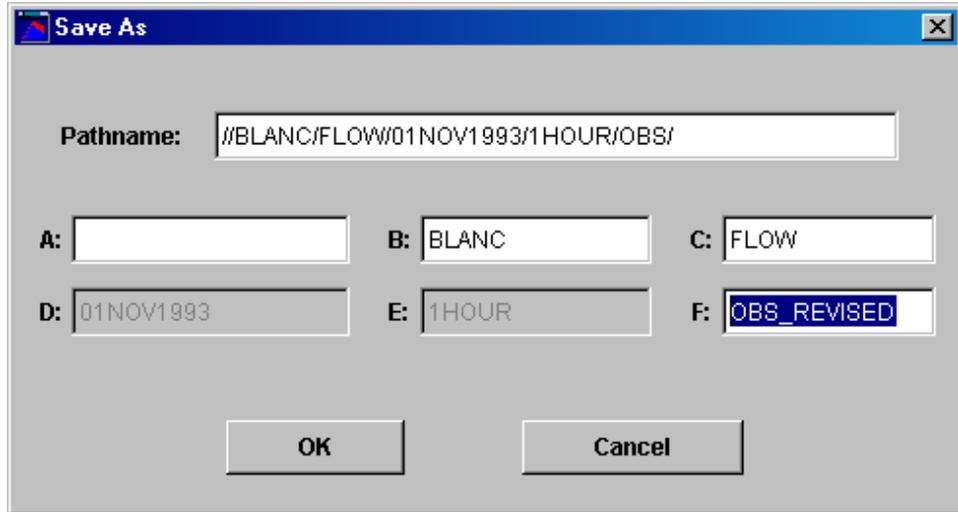

Figure E.13 HEC-DssVue Save As Dialog Box
7. To save the new values as a new record, click the **Save As** button  (or select **Save As** from the **File** menu). A **Save As** dialog box will open, as shown in Figure E.13. Enter the new pathname information and click **OK** to save the record.